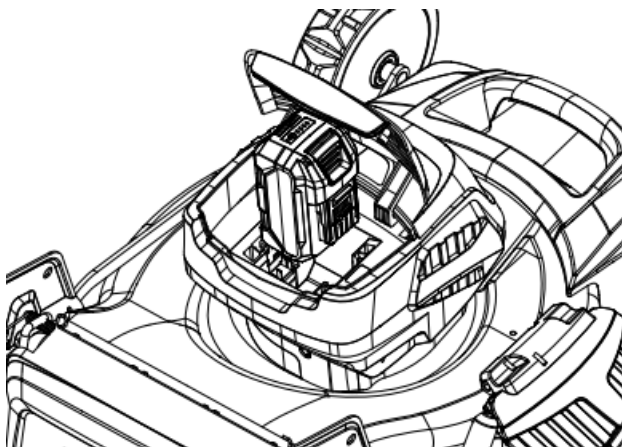

Fig.5A
1. Open the battery door. (Fig. 5A)